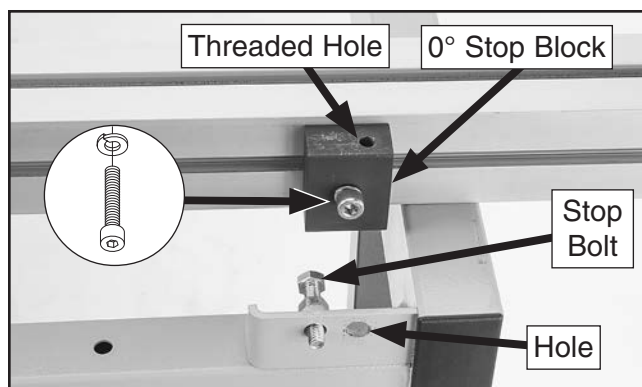

Figure 45. 90° stop block installed.
40. Attach 0° stop block to T-nut with (1) M8-1.25 x 35 cap screw and (1) 8mm lock washer (see **Figure 45**).
47. Align 0° stop block with stop bolt, and align threaded hole in block with hole to right of stop bolt (see **Figure 45**).